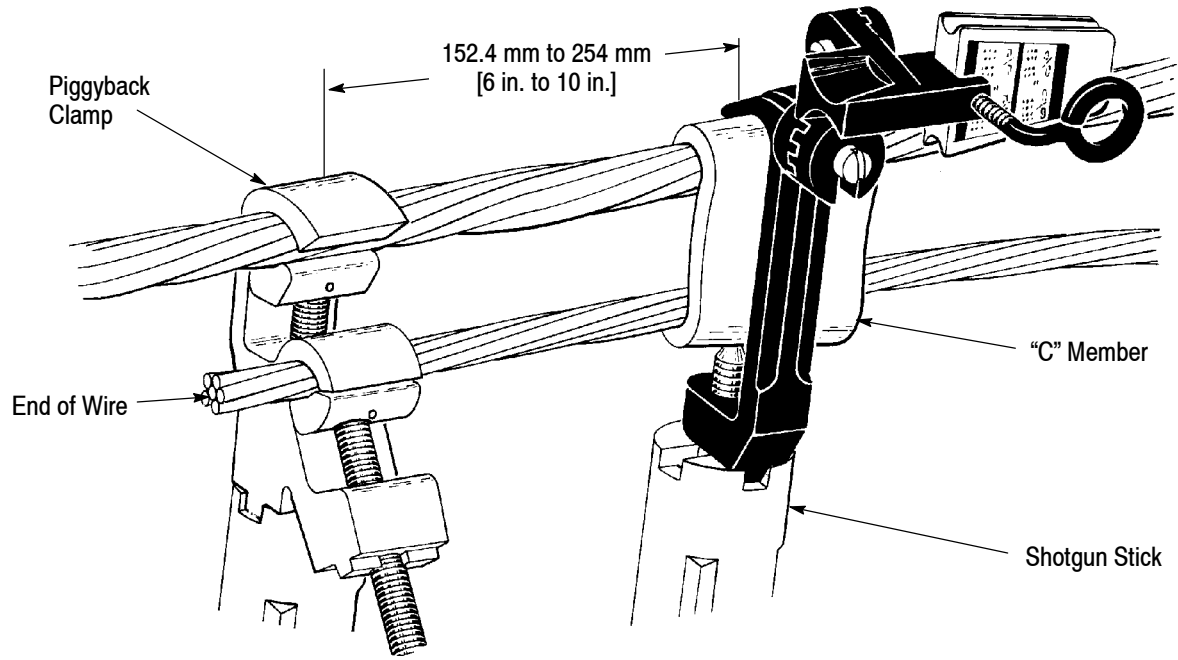

Figure 13
3. Hook the "C" member over the tap wire and through-line 152.4 mm to 254 mm [6 to 10 inches] from the piggyback clamp, with narrow end of "C" toward the piggyback clamp. See Figure 13.